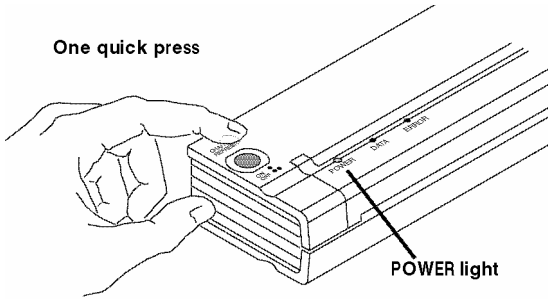

FIGURE 8. Turning on the printer
2. Turn the printer on by pressing the main switch once quickly. The POWER indicator lights up. See Figure 8.